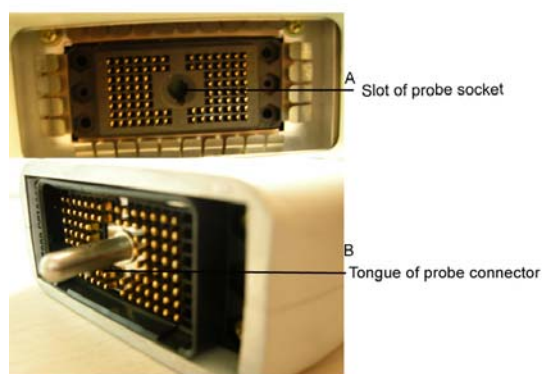

Fig. 3-5-1 Probe socket and probe connector position
3. Put the probe lock knob to open status, see Fig 3-5-2, make sure the small tongue of probe lock inside the probe connector is at the same position of slot on the probe socket; see Fig :3-5-1